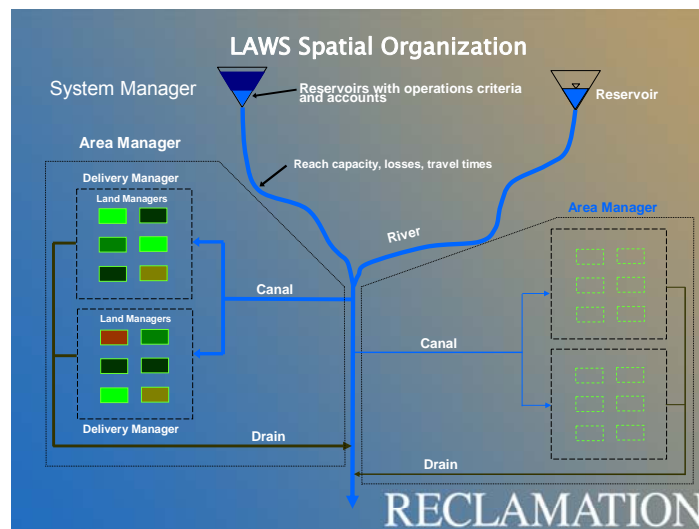

Figure 1. LAWS Spatial Organization
LAWS captures both the spatial and hierarchical organization of a water supply system. In LAWS, the supply system is conceptualized as a series of nested spatial units that range in size from multi-regional watersheds to individual land units as small as fields. The largest scale land area is associated with a System Manager (SM). In a LAWS simulation, there may be one or more SMs. At the next smaller spatial scale, each Area Manager (AM) manages a particular region within the system. Within these regions, there are one or more Delivery Managers (DM). These DMs represent sub-regions within the AM region where water management is performed differently based on some unique characteristics of the land or the water supply associated with the sub-region. At the smallest scale, an individual land unit is represented by a Land Manager (LM). Each LM is located within a single DM sub-region. In LAWS, the geospatial locations of major reservoirs, rivers, canals and drains are explicitly located through its GIS capability down to the AM-scale. Although simulated mathematically, smaller scale conveyance infrastructure at the DM- and LM-scales is not explicitly geospatially referenced. The LAWS spatial organization is shown in Figure 1 below.